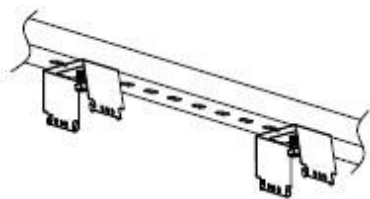

Figure 6
1. Mount the bracket on the rail or ceiling. (Figure 6)